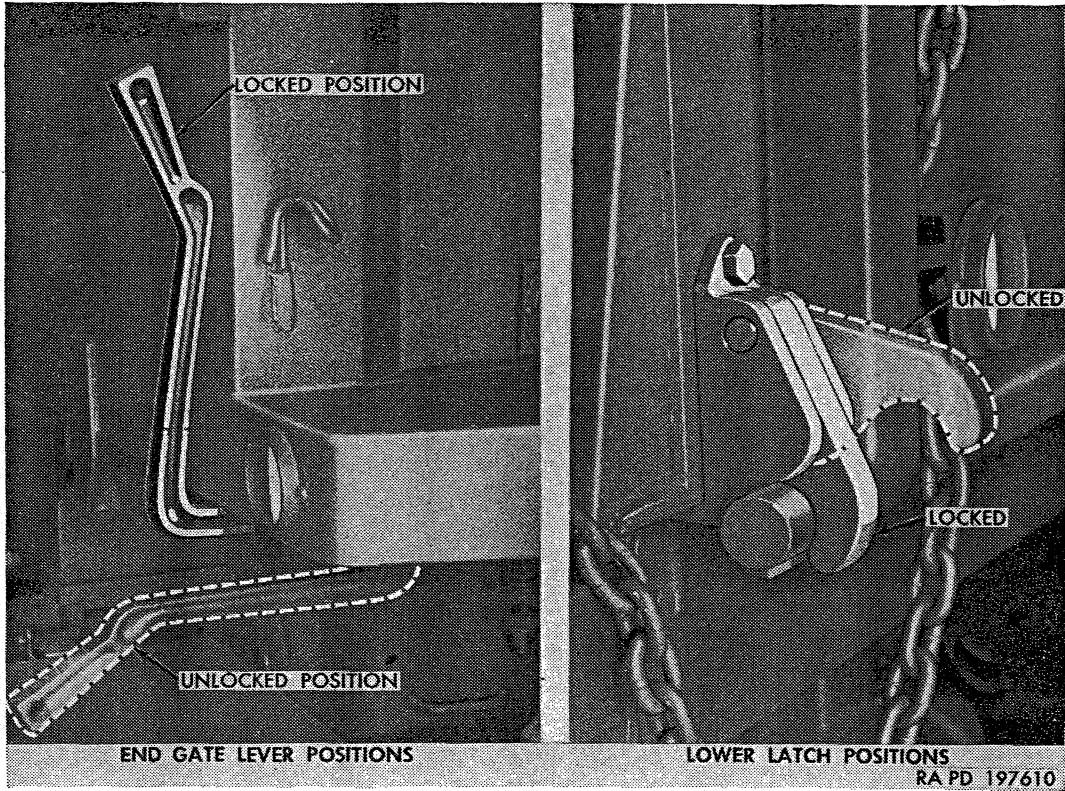

Figure 46. End gate hand lever and lower end gate latch positions.
c. *End Gate Hand Lever.* The end gate hand lever (fig. 46), located at left front corner of body, is manually positioned to operate lower latch at each lower side of end gate.
a. *End Gate Operation.* Lower portion of end gate hinges in a latch (fig. 46), at each lower side. The lower latches are opened or closed by end gate hand lever. Upper part of end gate hinges in a latch at each side. The end gate upper pins are held in place in each upper latch with pins which are chained to each upper latch. Link chain on each side permit gate to be held in desired opened positions (figs. 48 and 49).
(1) *Closed position.* End gate hand lever (fig. 46) at left front corner of vehicle must be in upright or latched position to hold lower portion of end gate secure. Raise gate until upper
- (3) *Spreading or dumping position*. End gate (fig. 49) can be positioned to completely open to dump load, or partially open to spread. End gate hand lever must be pushed straight down to release lower latches (fig. 46). End gate then hinges on upper latches. Opening can be varied by chain on each side. Chains can be locked into hole on each side of body.